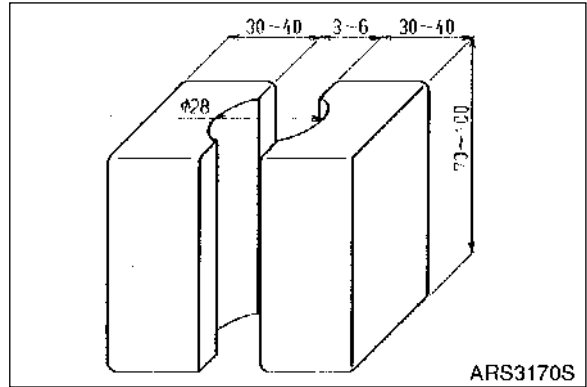

Figure 50
1. Work with spool gripped in vise with wood (see Figure 50) not to scratch in outside diameter of spool.
- A. Loosen spool end (22, width across flat: 5) of spool (19) and remove spring seat (20) and spring (21).